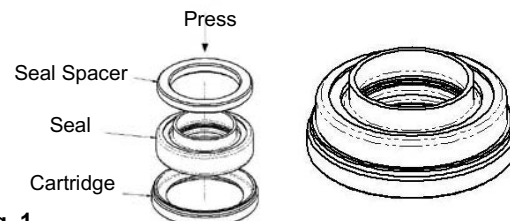

Fig. 1
1. To assemble the seal cartridge, remove the old seal from the cartridge by pressing it out. The cartridge is reused by assembling the new seal into cartridge, ensuring the new seal is pressed in with the lip seal on the opposite side as shown in Fig. 1.